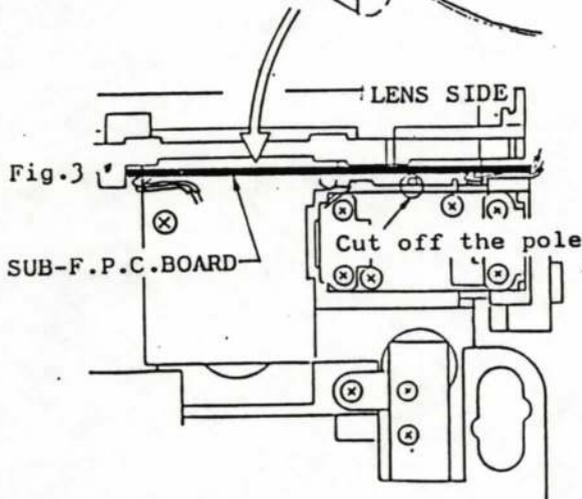

Fig.3
- 4) Cut off the pole and insert Sub F.P.C board between the lens mount and the battery case. (Fig.3)